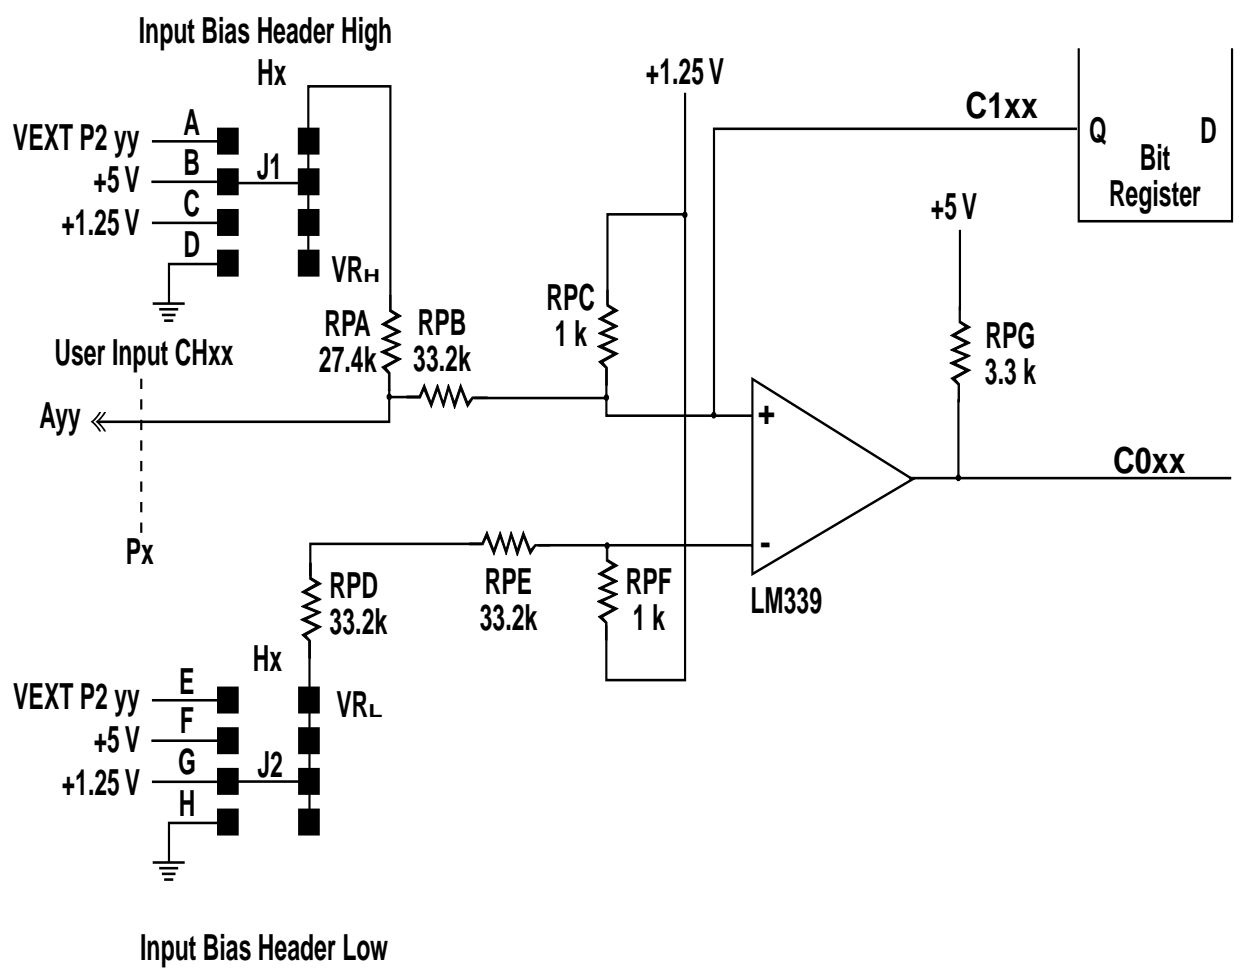

Figure 2-1 Basic Current Sinking Input
The input topology is configured by placing jumpers in certain positions of a header field. Figure 2-1 on page 22 shows the circuit topology for a current sink input. Figure 2-2 on page 23 shows a voltage source input. Jumper J1 selects the pull-up voltage applied to input resistor RPA and J2 selects the reference voltage applied to the threshold resistor RPD. Jumpers J1 and J2 in these figures represent the jumpers used to control a group of 8 input channels. The physical location of these jumpers is shown in Figure 2-4 on page 25.
If J1 is in the ground position, the input circuit is voltage sourcing (see Figure 2-2 on page 23). In any other position, the input is current sinking. In the circuit shown in Figure 2-1 on page 22, the pull-up voltage VR_H is 5 V. If the voltage you are using is greater than 5 V, then you should use V_{EXT} for J1. Table 2-2 on page 26 shows the location of V_{EXT} for each group of channels.
3. The VMIVME-1128 is designed to accommodate either current sink or voltage source inputs. See Figure 2-1 and Figure 2-2, respectively, for the correct configuration of the desired input.